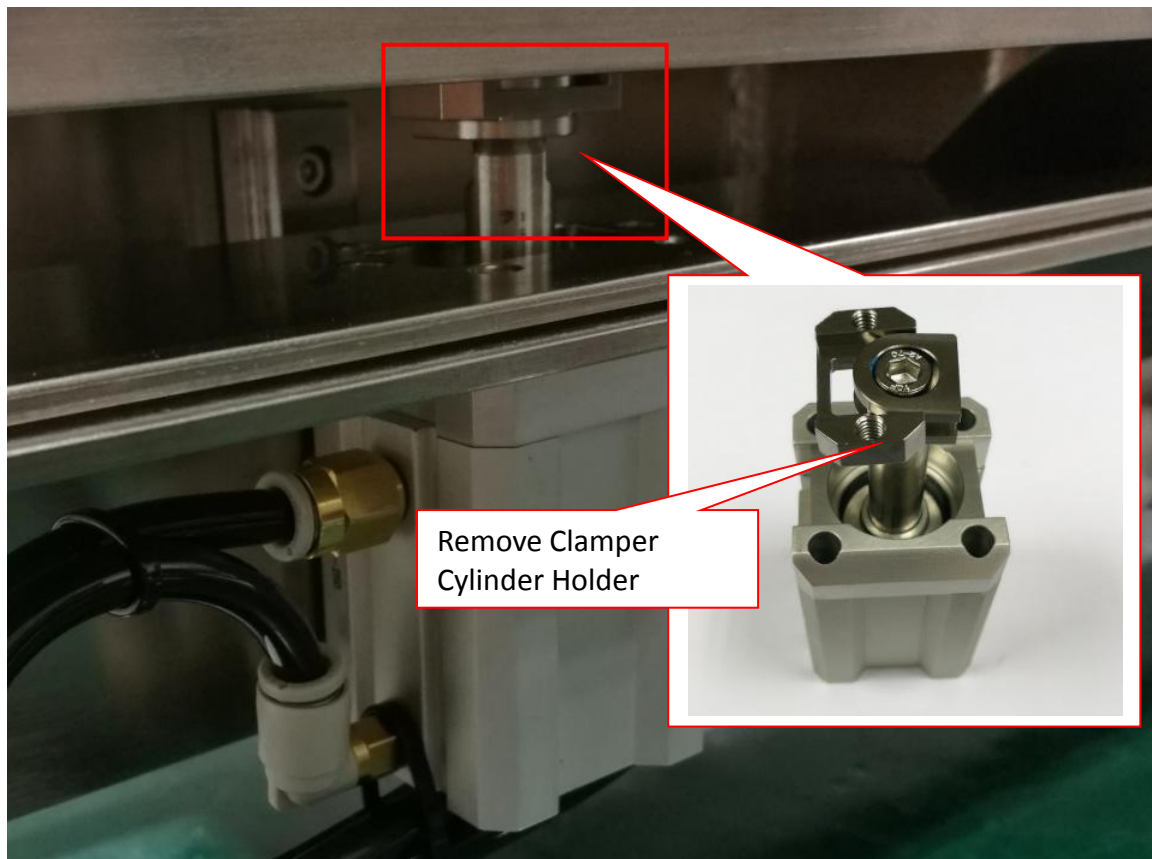

Figure 5 Clamper Cylinder Holder Removal
7. Remove Clamper Cylinder Holder as shown in Figure 5.